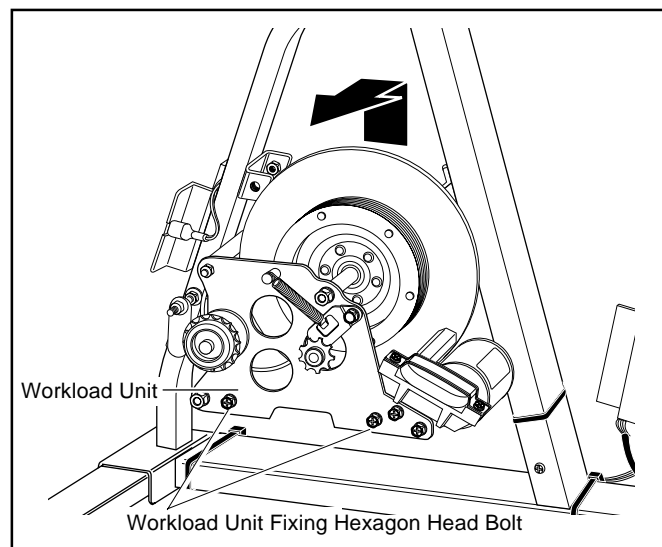

Fig. 4
6. Remove the hexagon head bolts which fix the workload unit (two bolts on either right and left sides). Lift the entire workload unit upward until it comes off the workload unit fixing metal base, and remove the unit by shifting it either in the right or left side (Fig. 4). Be careful that the copper disk plate does not touch the frame.
2. Tighten the crank nut by using a cotterless gear crank removing/ fastening tool and a wrench (Figs. 2 and 3). Tightening torque should be 350kg cm to 400kg-cm, and tighten the nut until the end of the crank shaft can level with the end surface of the nut. Then, put the crank cap with a coin or the like. (Fig. 4)